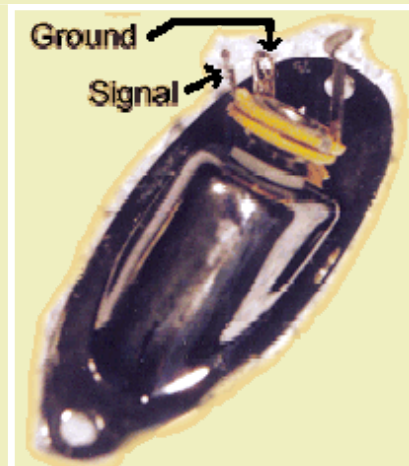

Figure 6
36. Solder the leads to the appropriate terminals of the output jack. Figure 6 shows a typical jack mounted on the jack plate, terminal locations may vary slightly but you can usually see which is connected to the "feeler" that touches the tip of the plug – that contact is the "hot" contact.